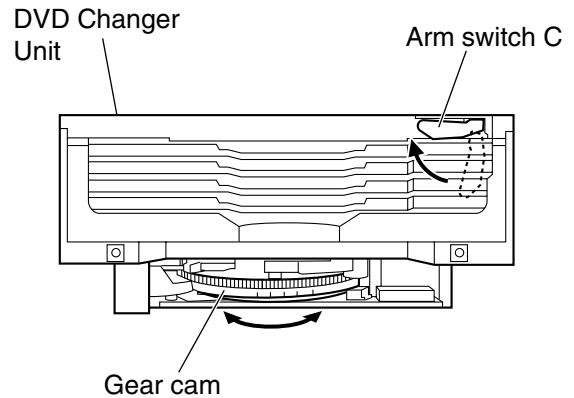

Figure 1
1. How to remove DVD/CD Disc manually (See Fig. 1,2)
1. Rotate the gear cam until the arm switch C becomes the position of the Figure 1.